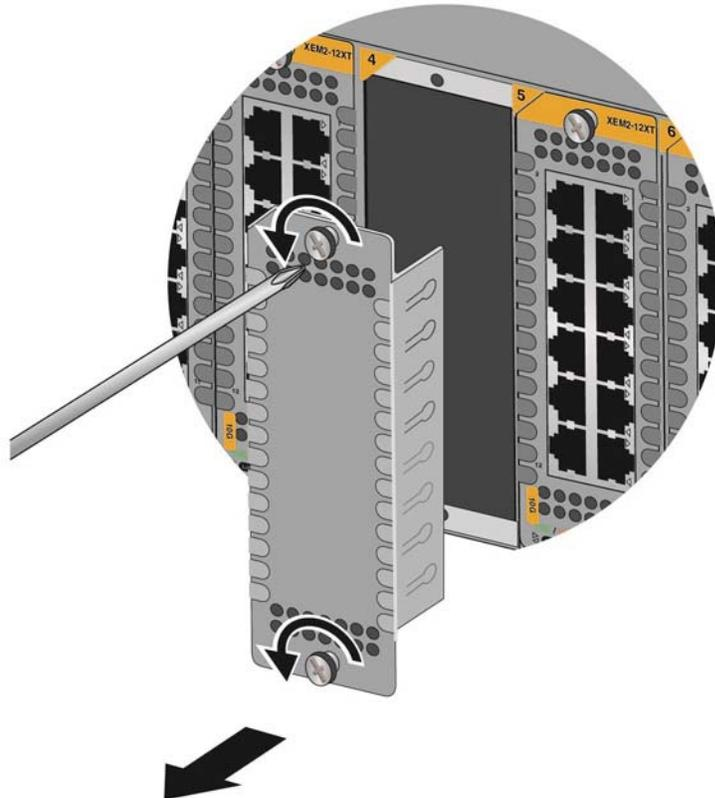

Figure 56. Removing a Blank Line Card Cover
2. If the slot is covered with a blank panel, use a #2 Phillips-head screwdriver to loosen the two captive screws on the panel and remove it from the chassis. Refer to Figure 56.